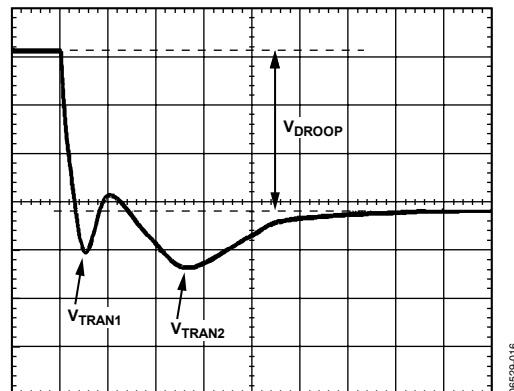
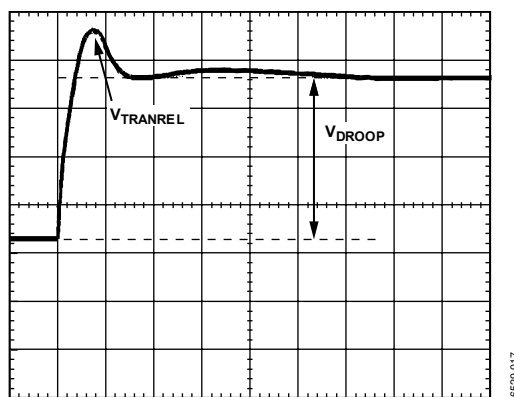

Figure 15. Transient Setting Waveform
Figure 16. Transient Setting Waveform
- With the dynamic load still set at the maximum step size, expand the scope time scale to see 2 $\mu\text{s}/\text{div}$ to 5 $\mu\text{s}/\text{div}$. The waveform may have two overshoots and one minor undershoot (see Figure 15). Here, V_{DROOP} is the final desired value.
- For load release (see Figure 16), if $V_{TRANREL}$ is larger than V_{TRAN1} (see Figure 15), there is not enough output capacitance. Either more capacitance is needed or the inductor values need to be smaller. If inductors are changed, start the design again using the spreadsheet and this tuning procedure.